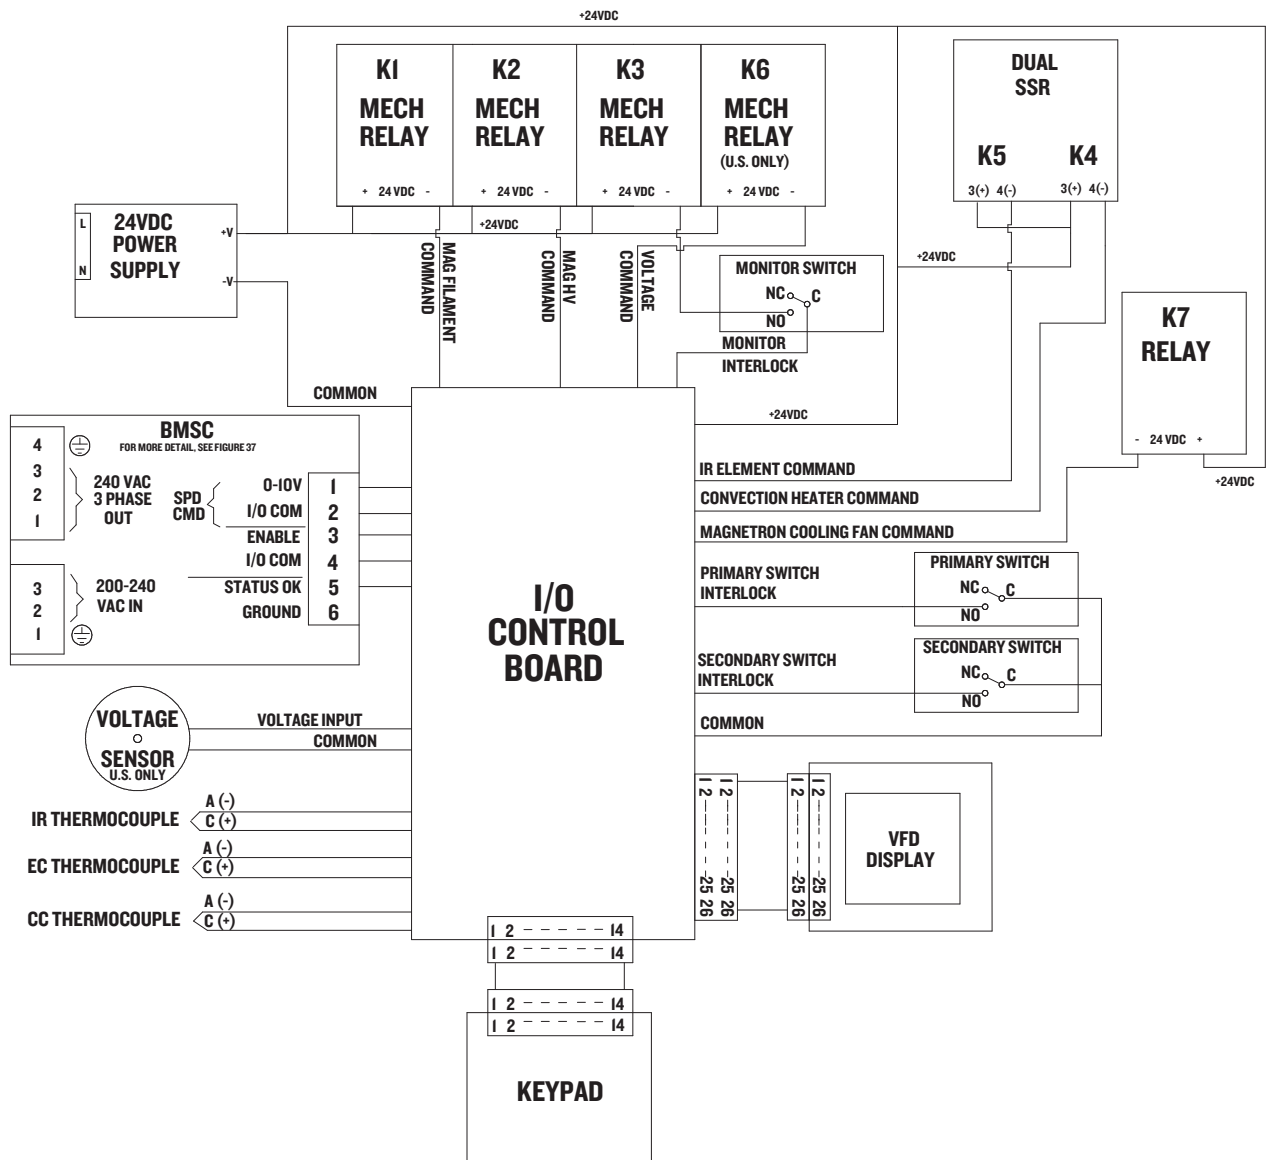

FIGURE 7: NGC (Tornado®) Control System
**The Control System** is comprised of the components that signal, sense, command, and switch the oven's various components. Figure 7 shows a functional diagram of all the components that make up the Control System.